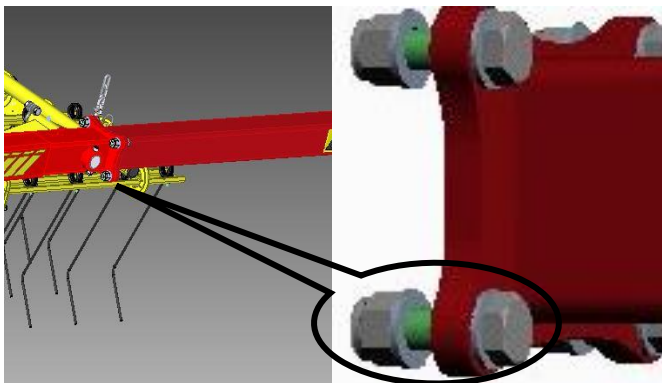

Figure 3
- Install the flange frame on the existing frame with the M16x55 hexagonal bolts and the M16 nuts and one M16 washer each (Figure 3).